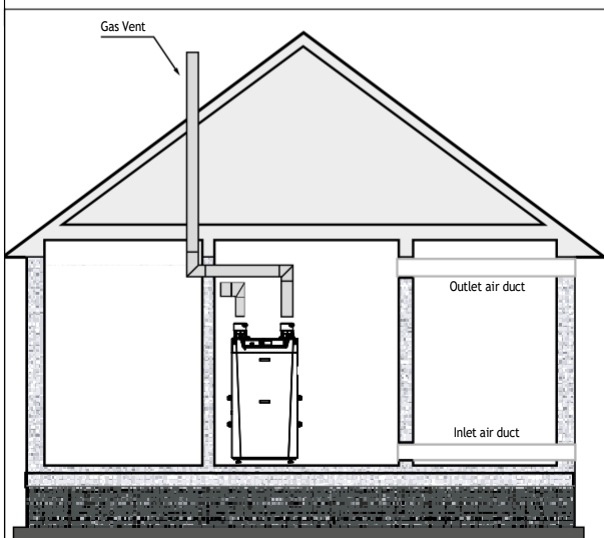

Fig. 4 - All Combustion Air from Outdoors Through Horizontal Ducts
- Where communicating with the outdoors is through horizontal ducts, each opening shall have a minimum free area of not less than 1 sq. in./2000 Btu/hr of total input rating of all equipment in the enclosure. See Fig. 4 below.